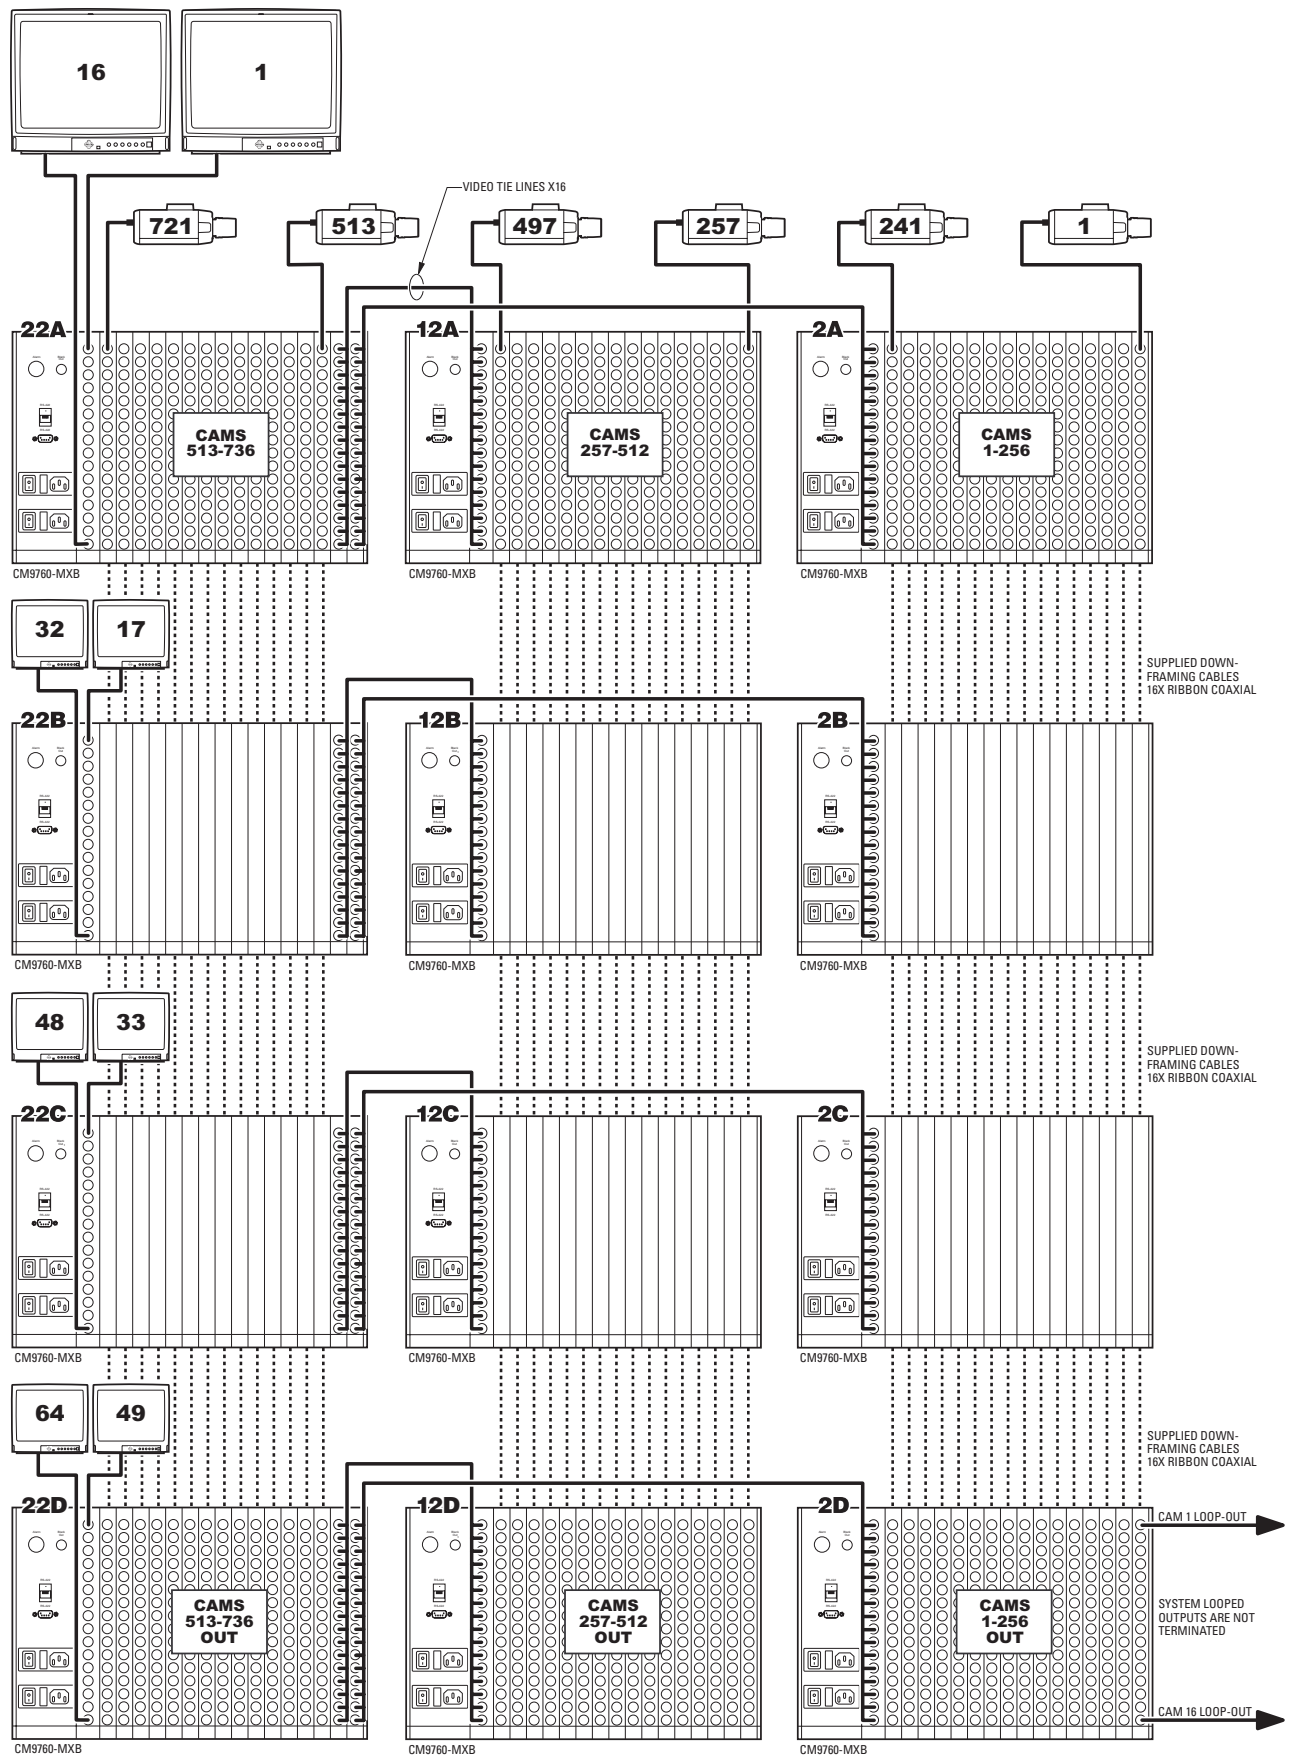

Figure 78. Sideframing and Downframing: 736 x 64 Configuration, Looping
- 736 x 64, looping (refer to Figure 78)